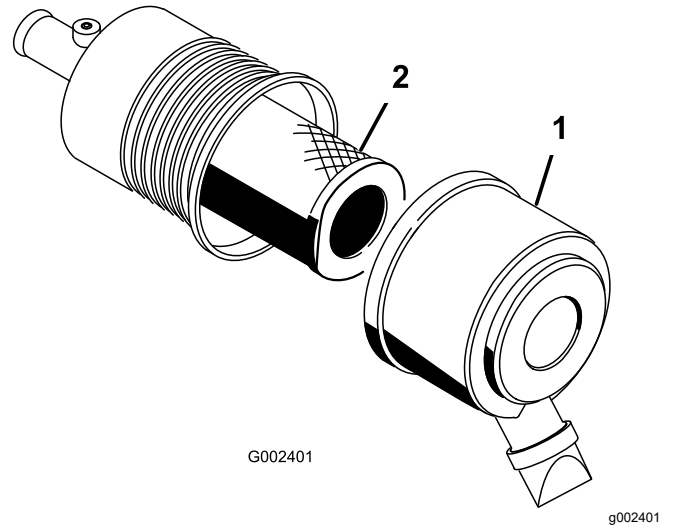

Figure 50
2. Release the latches securing the air-cleaner cover to the air-cleaner body (Figure 50).
3. Remove the cover from the air-cleaner body (Figure 50).
5. Remove and replace the filter (Figure 50).